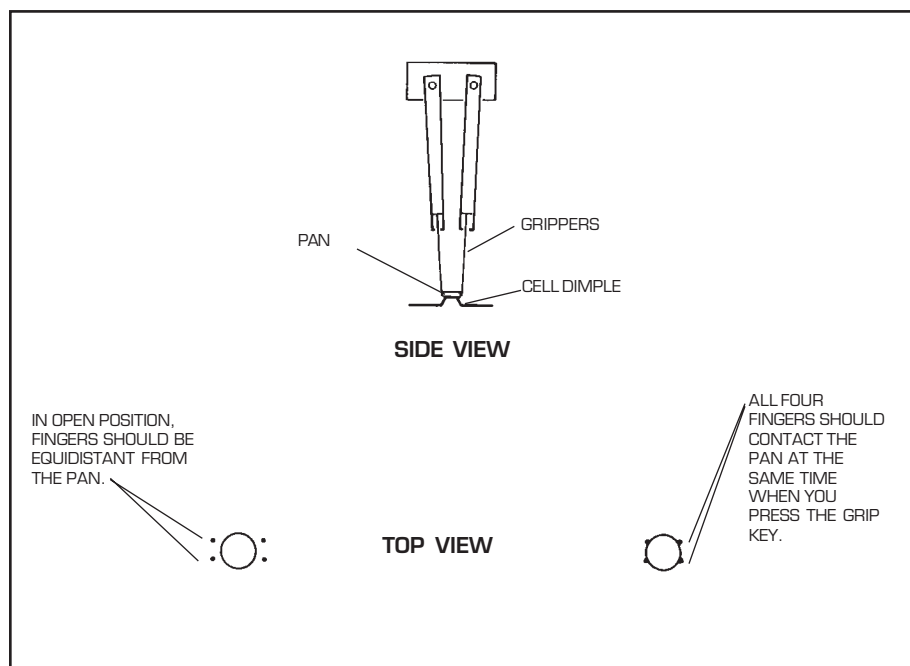

Figure 4.2
9. Use the motion keys to position the pan in its correct calibration position (see Table 4.1). Press the RELEASE and GRIP keys repeatedly to ensure that the fingers can firmly grasp the pan, and watch carefully to ensure that each finger contacts the pan at the same time (see Figure 4.2).
16. When the turret stops moving, close and open the grippers again and check your calibration against the criteria in Figure 4.2. Remember to release the pan. If the position is correctly calibrated, go on to step 17. If it is not, repeat steps 4 through 16.
22. Use the motion keys to position the pan in its correct calibration position (see Table 4.1). Press the RELEASE and GRIP keys repeatedly to ensure that the fingers can firmly grasp the pan, and watch carefully to ensure that each finger contacts the pan at the same time (see Figure 4.2).
29. When the turret stops moving, close and open the grippers again and check your calibration against the criteria in Figure 4.2. Remember to release the pan and raise the turret out of the cell with the RAISE key.